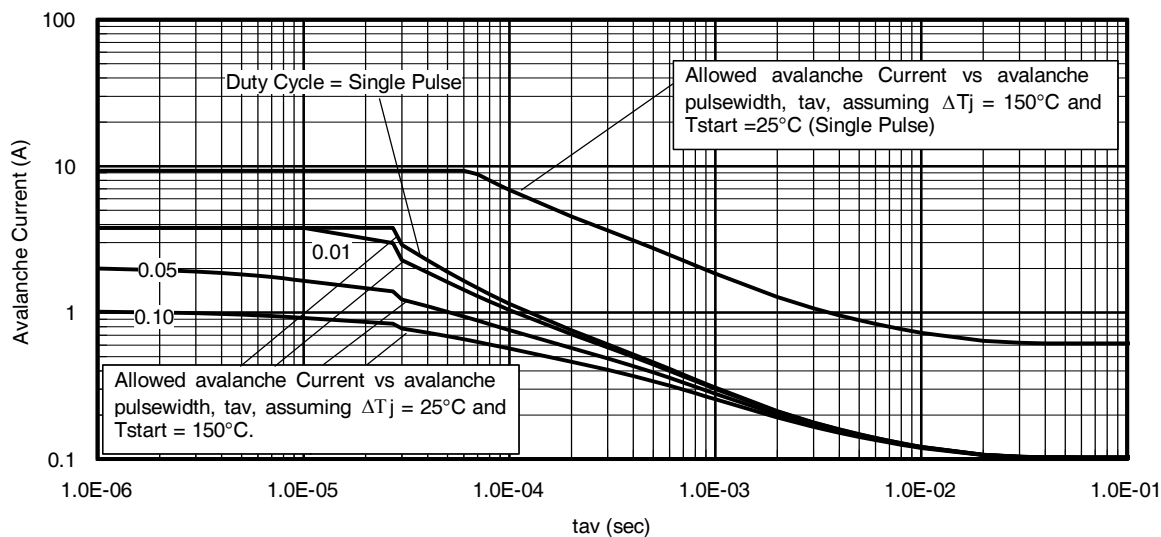

Fig 15. Typical Avalanche Current Vs. Pulse width
Notes on Repetitive Avalanche Curves , Figures 15, 16:
7. ΔT = Allowable rise in junction temperature, not to exceed T_{jmax} (assumed as 25°C in Figure 15, 16).